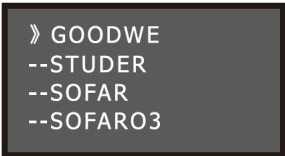
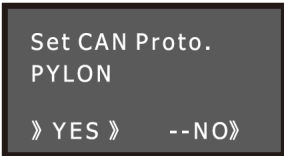

Figure 3.
Figure 4.
2) To set the CAN communication protocol, please press the *Down* button in the interface shown in Figure 1 to choose "Set CAN Prot" section and enter the list of available protocols as shown in Figure 3. Choose your desired protocol by pressing the *Down* button and *Enter* button. You will be asked for a confirmation "Yes" / "No" as shown in Figure 4. Move the cursor to "Yes" and press the *Enter* button. Then you will see a confirmation as shown in Figure 5. Press the *Esc* button to come back to the previous menu.